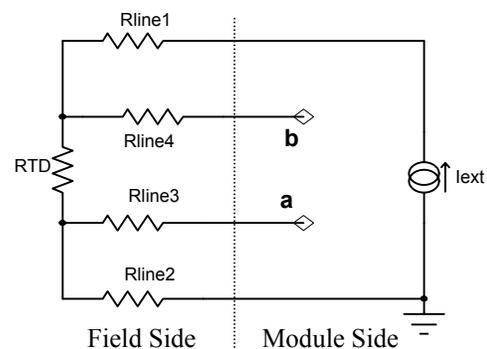

Figure 2
Modern semiconductor technology facilitates resistance measurements with linear outputs and line resistances eliminate. For example, Figure 2 illustrates a 4-wire RTD configuration with current excitation.
In Figure 2, $V_{ba} = I_{ext} \times [R(0) + \Delta R]$, which is a circuit linear output with line resistances eliminated. Note, this scheme does not require equal line resistances. Dataforth offers a 4-wire RTD module, the SCM5B35, which employs the scheme in Figure 2 including RTD vs T linearization and signal isolation.
Self-heating errors can arise when the excitation circuit drives RTD sensors at power levels exceeding the manufacture's specification. For example, if the excitation current (I) in Figure 2 is 250 micro-amperes, which is Dataforth's value for 100 Ohm RTDs, and temperature is -50°C ($\sim 80\ \Omega$), then RTD power dissipation would be ~ 5 micro-watts. For industrial RTD sensors, current excitation less than $500\ \mu\text{A}$ rarely cause self-heating errors. One should always check.